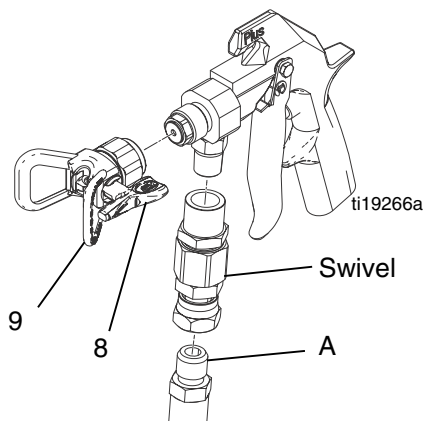

FIG. 2
1. Connect a fluid hose (A) to the gun inlet. Use high pressure swivel 207946 if desired (order separately). See Fig. 2.
2. With SwitchTip (8) and tip guard (9) removed, start the pump. Flush the pump according to the instructions supplied with it. Use the lowest pressure possible.
5. Install the SwitchTip (8) and tip guard (9). See Fig. 2.